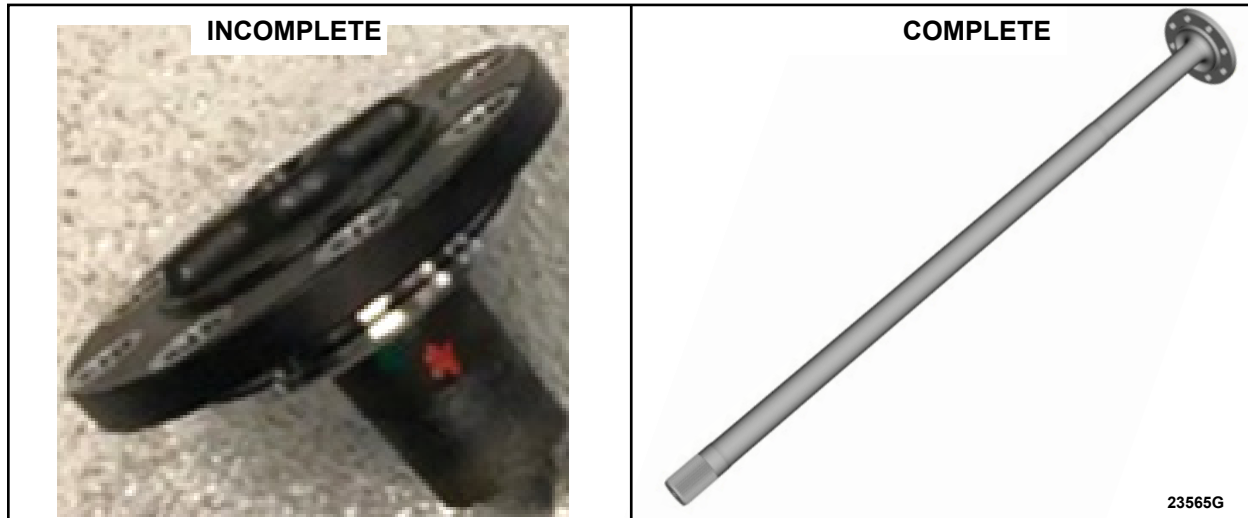

FIGURE 3
6. Is the LH axle shaft complete and in one piece? See Figure 3.